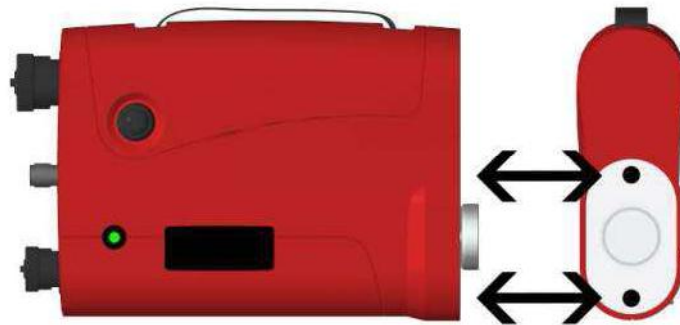

Figure 2
7. Remove the 2 off ¼ turn fasteners from the base of the unit as indicated in figure 2 using a flat head screwdriver.